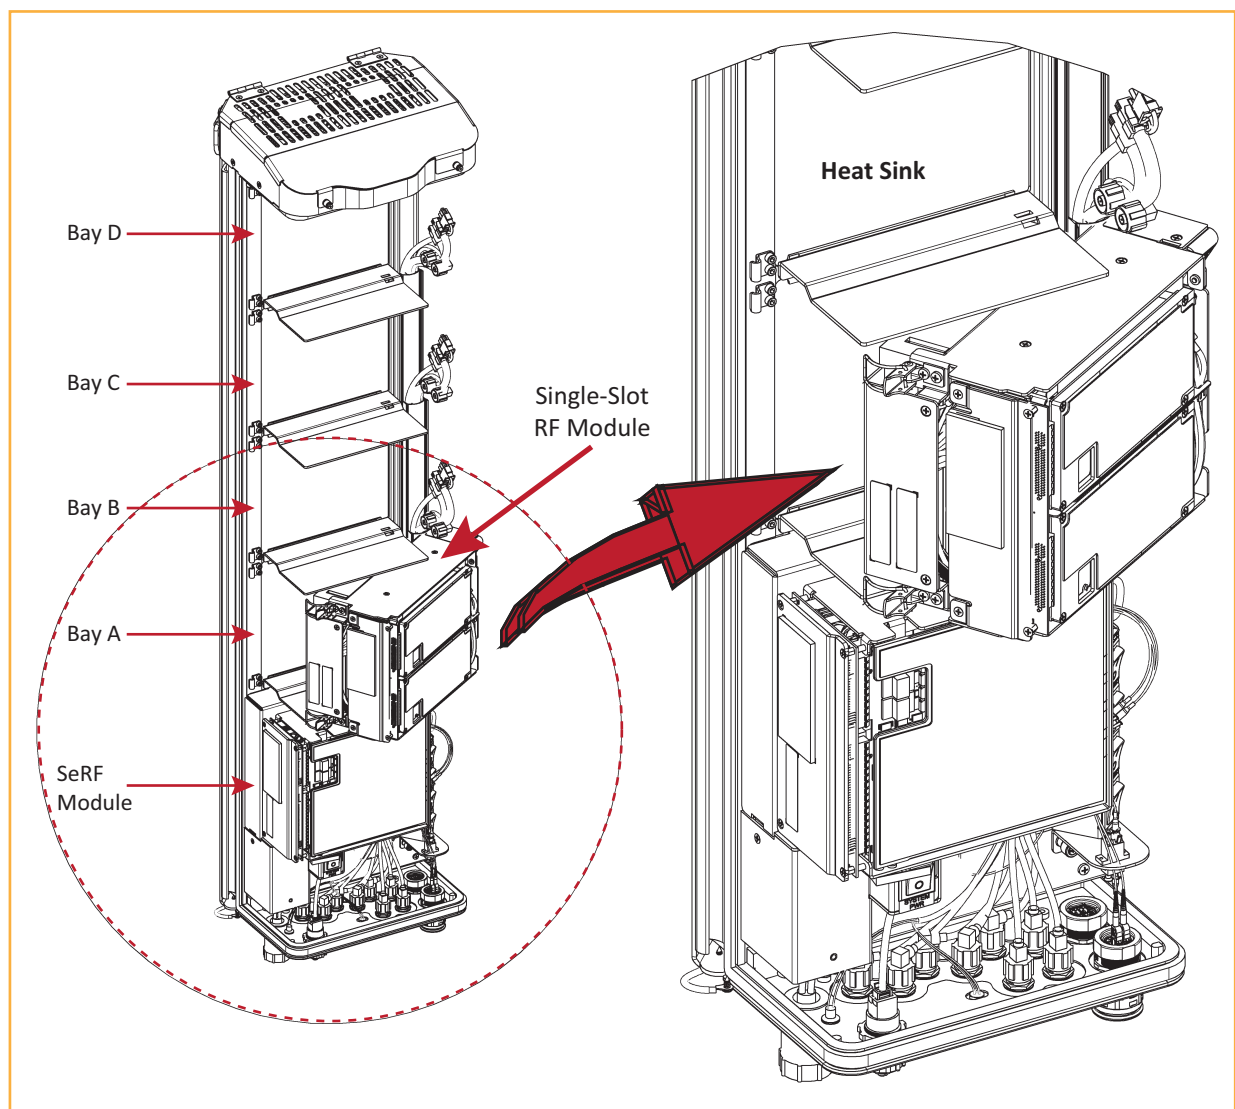

Figure 11. Installing a Single-Bay RF Module
- Single-Bay RF Module: Figure 11 on page 26